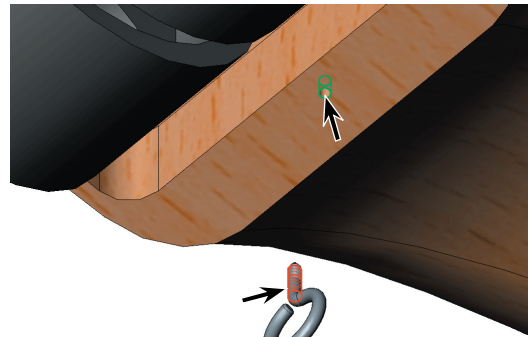

Fig. 52
Step 9. Click **cylindrical inside face of the hole in body** and **cylindrical face of eye screw**, Fig. 52.